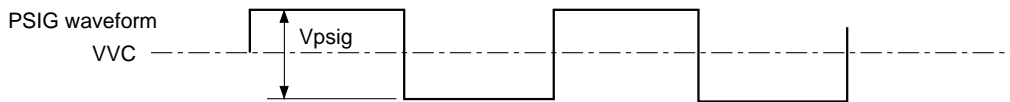

Fig. 1
*4 Input video and uniformity improvement signals should be input with the voltage amplitude symmetrical to VVC as shown in Fig. 1.